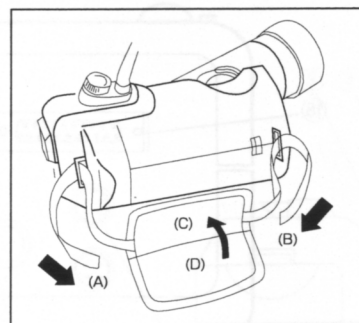

Fig. 4
2. Attach the strap as shown in Fig.4
3. Pull and adjust the strap (A) and (B) as they are suitable for your hand size. After that, hold them by the cover (C) and (D).